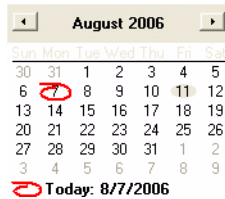

Figure 10-18 Future Price Calendar
4. Click on the **Effective Date and Time** pull-down to open up a calendar where a date can be selected. See Figure 10-18